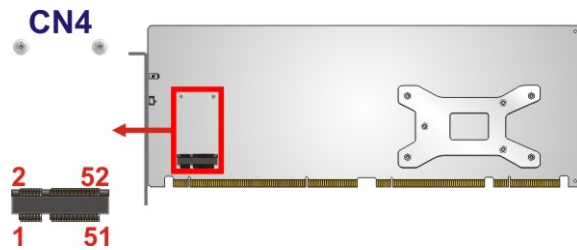

Figure 3-18: PCIe Mini Card Slot Location
- CN Location:** See **Figure 3-18**